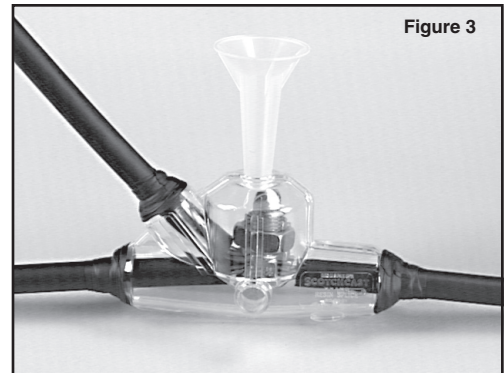

Figure 3
*Note: The preferred pouring position is as indicated in Figure 3. This kit can, however be poured from either side if necessary. Cut thin membrane from port at top of desired pouring position. Insert pouring spout and plug remaining hole with small plastic plug provided in kit.*